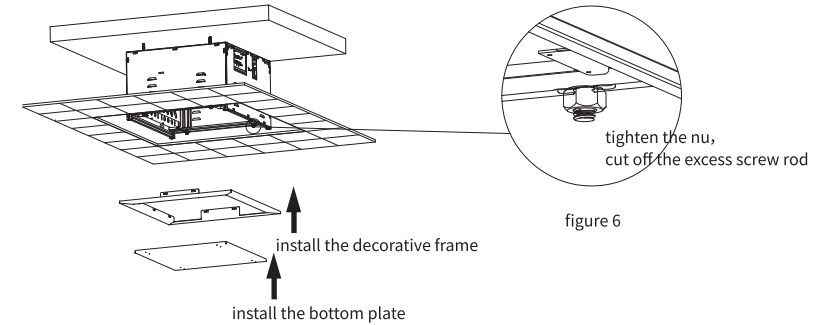

figure 6
4. After flattening the projector lift, cut the elongated screw flat (cut to a 5mm more than the nut, and the length cannot be longer than the square tube of the bottom frame of the projector lift), as shown in Figure 6, and then install back the decorative frame and bottom plate .